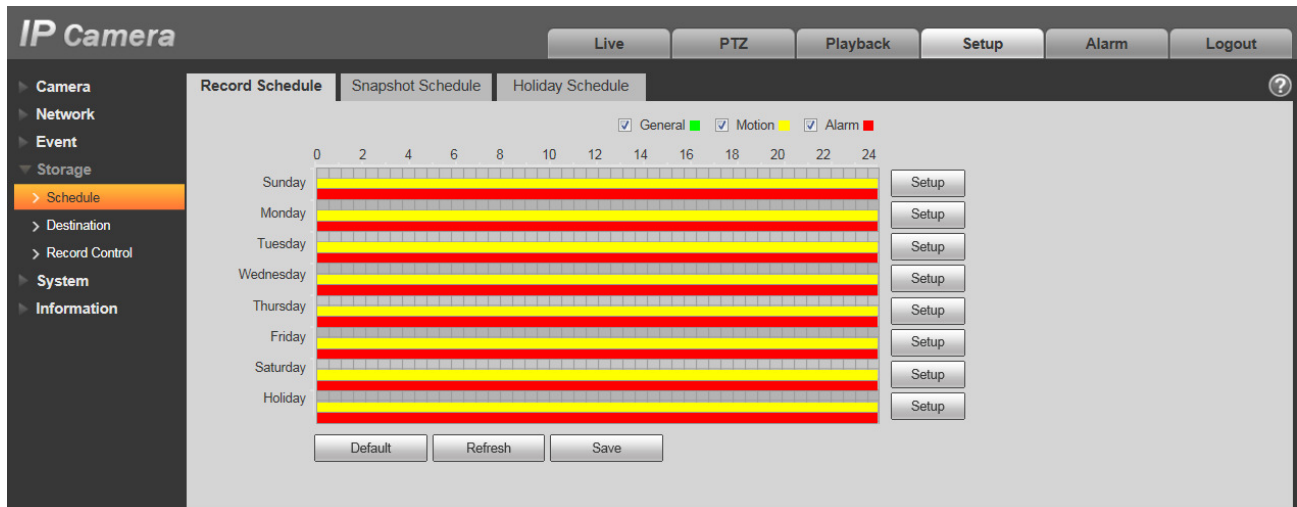

Figure 5-89
Step 1. Click on Record Schedule, see Figure 5-89.